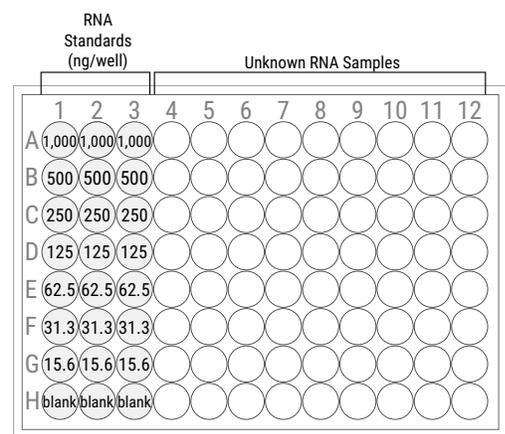

Figure 1. RNA standard curve layout on a 96-well plate for the QuantiFluor® RNA Select System.
4. Dispense 10µl of RNA standards prepared in Step 2 (labeled Standards A–G) to rows A–G of the 96-well plate (see Figure 1). We recommend pipetting triplicates of the standards.